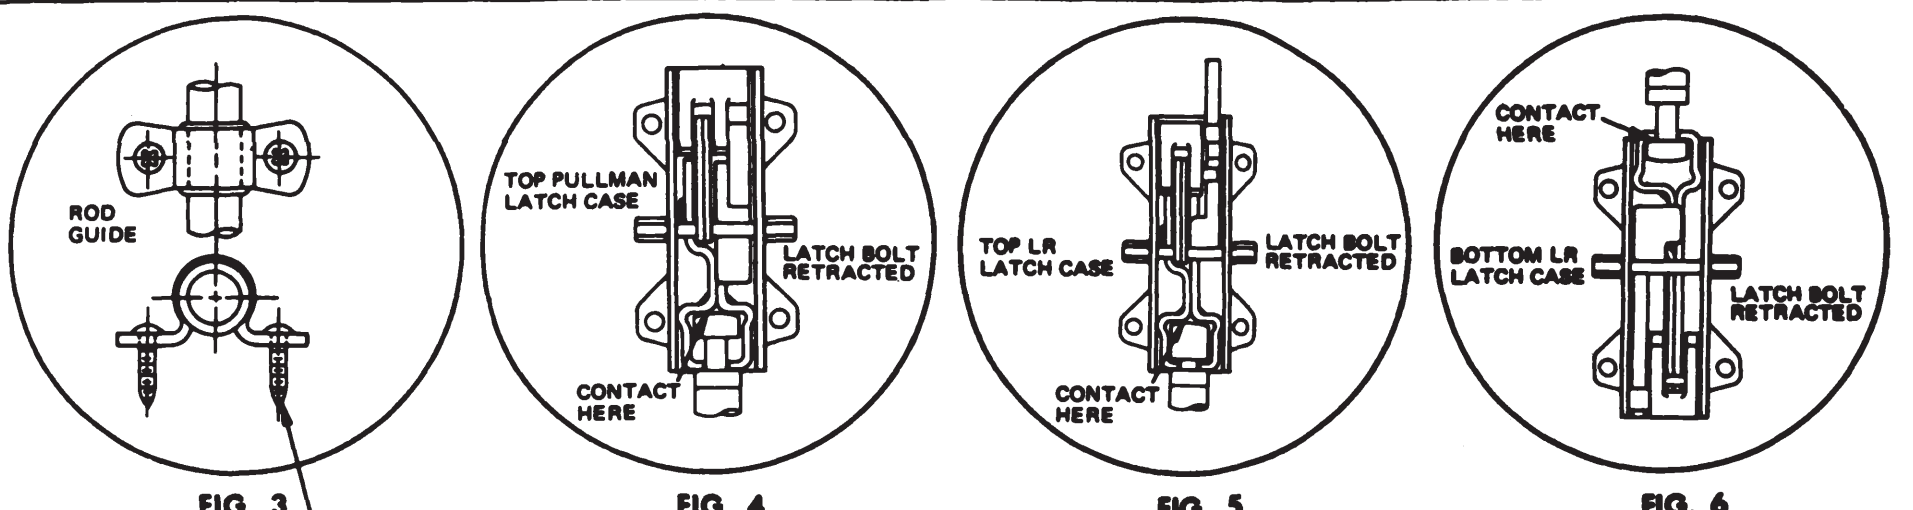

FIG. 3 FIG. 4 FIG. 5 FIG. 6 NOTE: DO NOT CUT BOTTOM ROD
- Attach top rod with rod guide, see Fig. 3. Adjust rod length so connector fits as shown. (Fig. 4 and 5.)